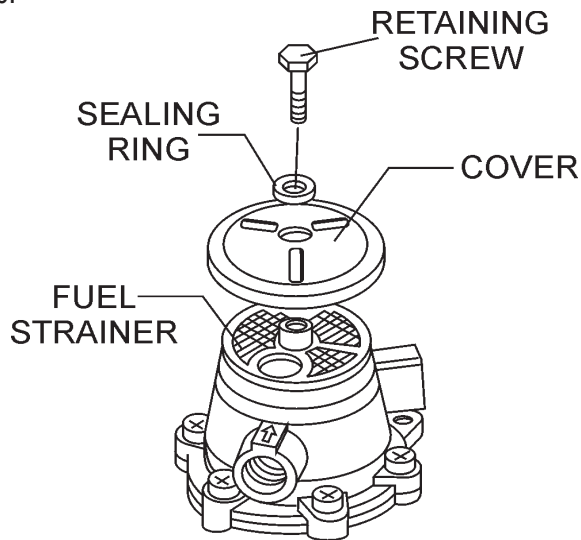

Figure 16. IMSA Fuel Filter
1. Close the fuel shut-off valve and loosen the retaining on the IMSA fuel filter (Figure 16).
Inspect and clean (replace if necessary) the IMSA fuel filter (Figure 16) every 500 hours. This filter is part of the fuel pump.